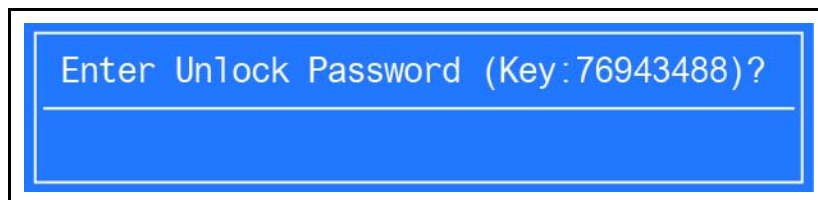

Figure 2-20. Enter Unlock Password
2. Use the **↑** and **↓** keys to highlight Enter Unlock Password and press **Enter**. The Enter Unlock Password dialog box appears. (Figure 2-20)
4. Execute *UnlockHD.exe* (Figure 2-21) to create a password unlock code. Use the format `<UnlockHD [key code]>` with the code noted in the Figure 2-20.
5. On original device, enter password (Figure 2-21) in Enter Unlock Password dialog (Figure 2-20).